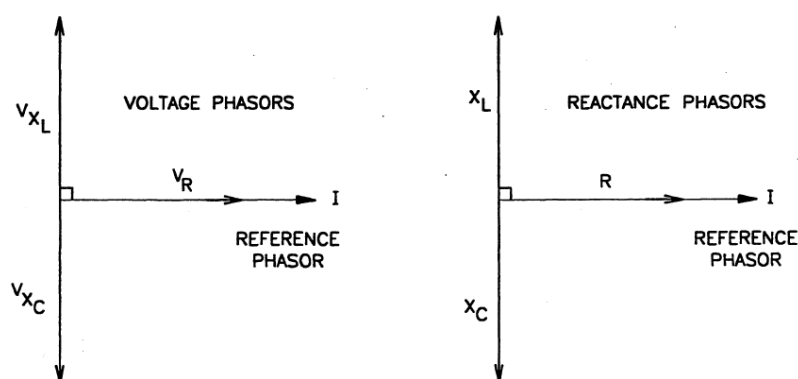

Figure 9 - Phasor diagram – RLC series circuit
35. It is a series circuit, so the current is the same in all components, therefore the current is the reference phasor. The relationships in the circuit can be shown on a phasor diagram as in Figure 9.